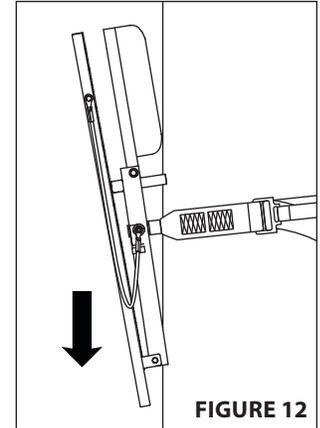

FIGURE 12
- d. While platform is still folded up, push treestand in a downward direction to further tighten strap. **SEE FIGURE 12.**